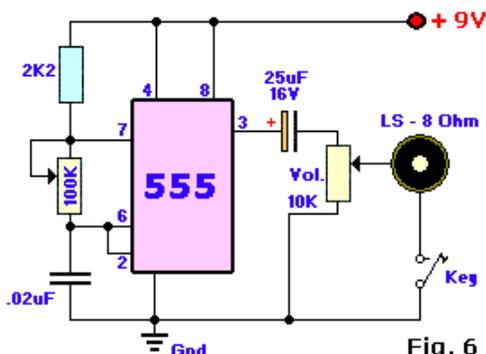

Fig. 6
**Fig. 6, CW Practice Oscillator:** CW stands for 'Continuous Wave' or Morse-Code. You can practice the Morse-code with this circuit. The 100K potentiometer is for the 'pitch' and the 10K for the speaker volume. The "Key" is a Morse code key.